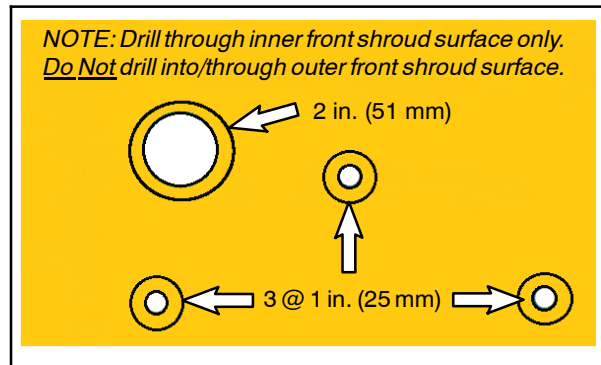

FIG. 10
8. From inside the shroud drill a 1 in. (25 mm) hole through each 0.375 in. (9.5 mm) hole in the inner surface of the front shroud. Do not drill into/through the outer surface. (Fig. 10)
9. From inside the shroud drill a 2 in. (51 mm) hole through the 0.886 in. (22.5 mm) hole in the inner surface of the front shroud. Do not drill into/through the outer surface. (Fig. 10)